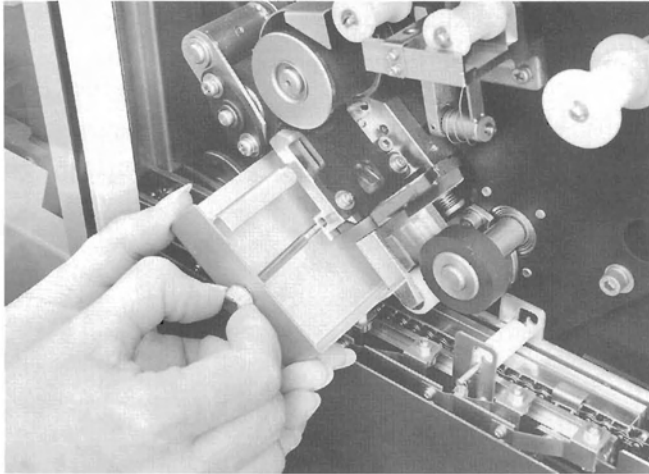

Figure 6-7
- a. Line up the screw in the tray with the hole in the instrument (Figure 6-7).